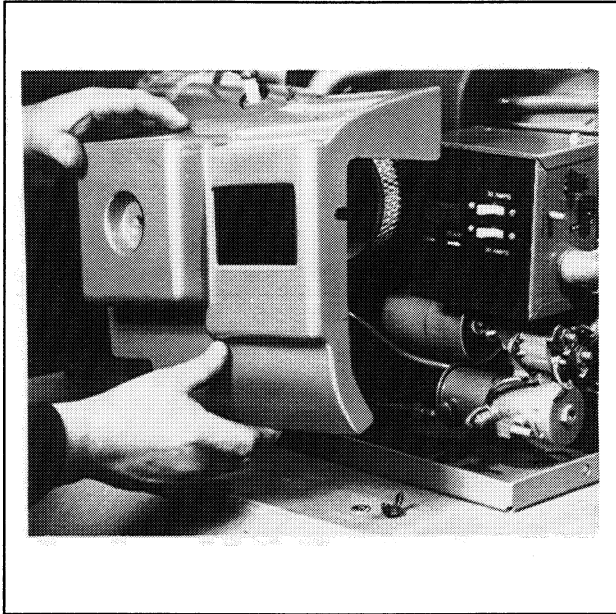

Figure 8-1. Removing Side Cover
1. Remove generator set side cover by removing wing nuts at air cleaner and controller box. Separate side-cover from generator. Figure 8-1.